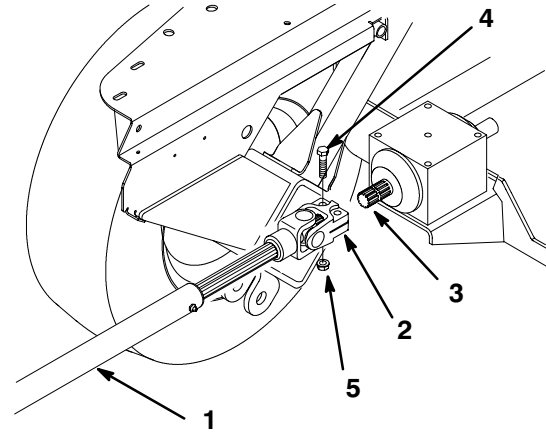

Figure 31
- Slide the driveshaft on gearbox shaft. Install 2 bolts (3/8 in. x 1-5/8 in.) and locknuts (3/8 in.) in universal joint (Fig. 31).